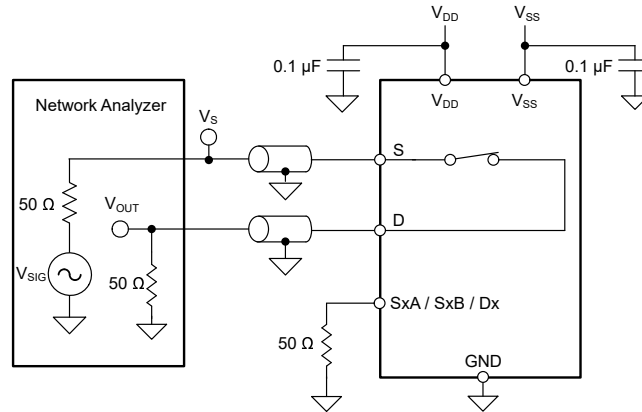

图 7-17. Bandwidth Measurement Setup
Bandwidth (BW) is defined as the range of frequencies that are attenuated by < 3 dB when the input is applied to the source pin (Sx) of an on-channel, and the output is measured at the drain pin (Dx) of the device. 图 7-17 shows the setup used to measure bandwidth of the switch.